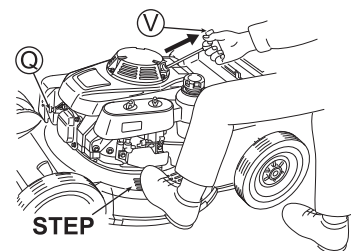

Fig. 12
1. Install the spark plug cap (Q). (See Fig. 12)
4. To start the engine, step one foot on the step of the housing, lightly pull the starter knob (V) and temporarily stop at a position where you feel heavy to pull the knob, and then powerfully pull it from that position. After that, return the starter knob (V) slowly. (See Fig. 12)